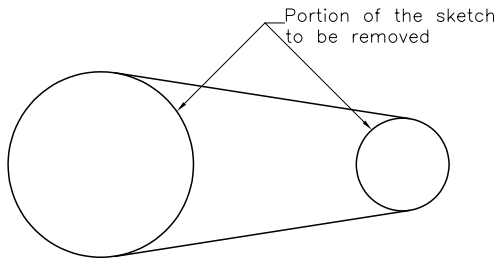
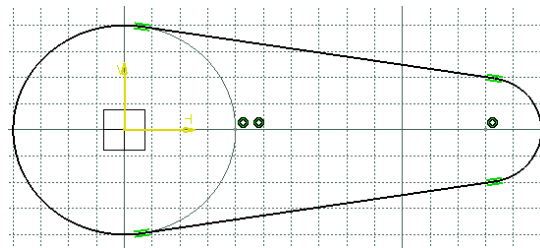

Figure 3-66 The unwanted portion of the sketch to be trimmed
Figure 3-67 The sketch after trimming the unwanted portion
2. Click on the unwanted portion of the sketch, refer to Figure 3-66. The final sketch is shown in Figure 3-67.